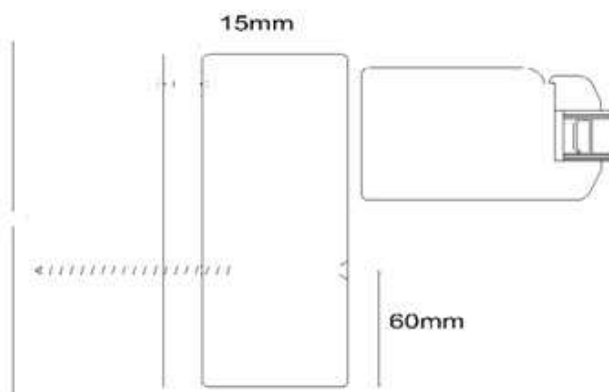

Figure 14. Fastening of a jamb of a parallel sliding door (vertical)
18. Fasten the jamb permanently to the wall structure with 6*120 screws (see Figure 14. Fastening of a jamb of a parallel sliding door (vertical)) and cover the screw holes with protection covers of suitable colour shade;